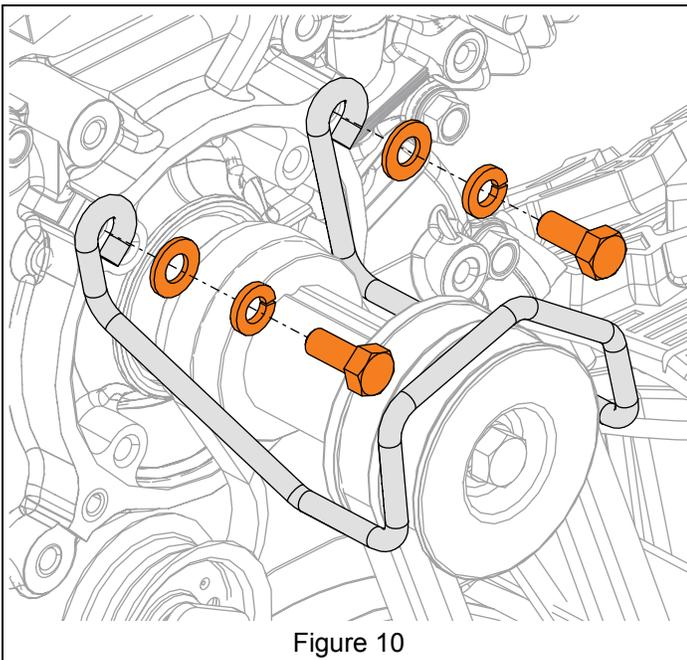

Figure 10
21. Remove hardware retaining belt finger to engine and remove belt finger. See Figure 10.